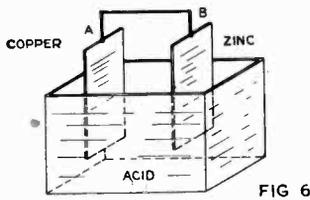

Fig. 6. The elements of an electric battery.
12. Voltage: We have seen that the movement of electrons along a conductor constitutes an electric current. However, if we take a piece of copper wire and hold it in our hand, no electric current flows, since there is no force or tendency to make the electrons move. We must apply some external force to the wire, called voltage, to produce the current. If we take a strip of copper wire and one of zinc, partly immersed in a solution of dilute sulphuric acid, and connect them with a wire, AB—Fig. 6, chemical action will take place and electrons will be removed from the copper and given to the zinc. This results in the copper plate having less than its normal number of electrons and the zinc plate having more than its number. The result is an unbalancing of the charges, and electrons will flow from B through the wire to A tending to equalize the charges again. This constitutes the flow of an electric current and we say the current flows through the wire from A to B. We have here a simple electric battery where A is the positive terminal and B is the negative terminal. The battery serves the purpose of causing a continuous flow as long as chemical action continues at the zinc—that is, as long as a voltage is present.